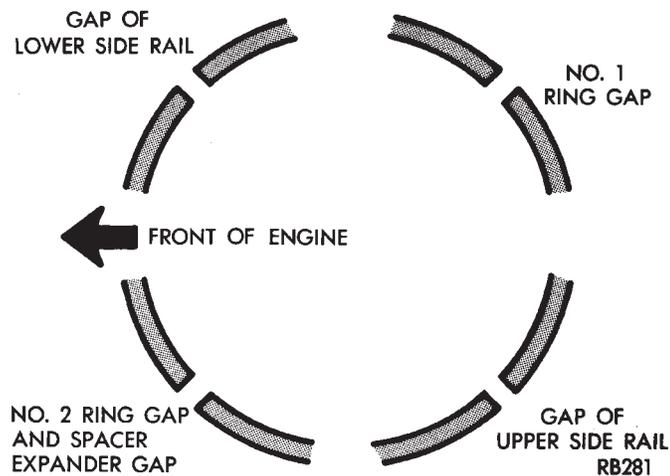

Fig. 20 Piston Ring End Gap Position
(5) Position piston ring end gaps as shown in (Fig. 20).
(6) Position oil ring expander gap at least 45° from the side rail gaps but **not** on the piston pin center or on the thrust direction. Staggering ring gap is important for oil control.
(1) Before installing pistons and connecting rod assemblies into the bore, be sure that compression ring gaps are staggered so that neither is in line with oil ring rail gap.
(2) Before installing the ring compressor, make sure the oil ring expander ends are butted and the rail gaps located as shown in (Fig. 20).
(3) Immerse the piston head and rings in clean engine oil, slide the ring compressor, over the piston